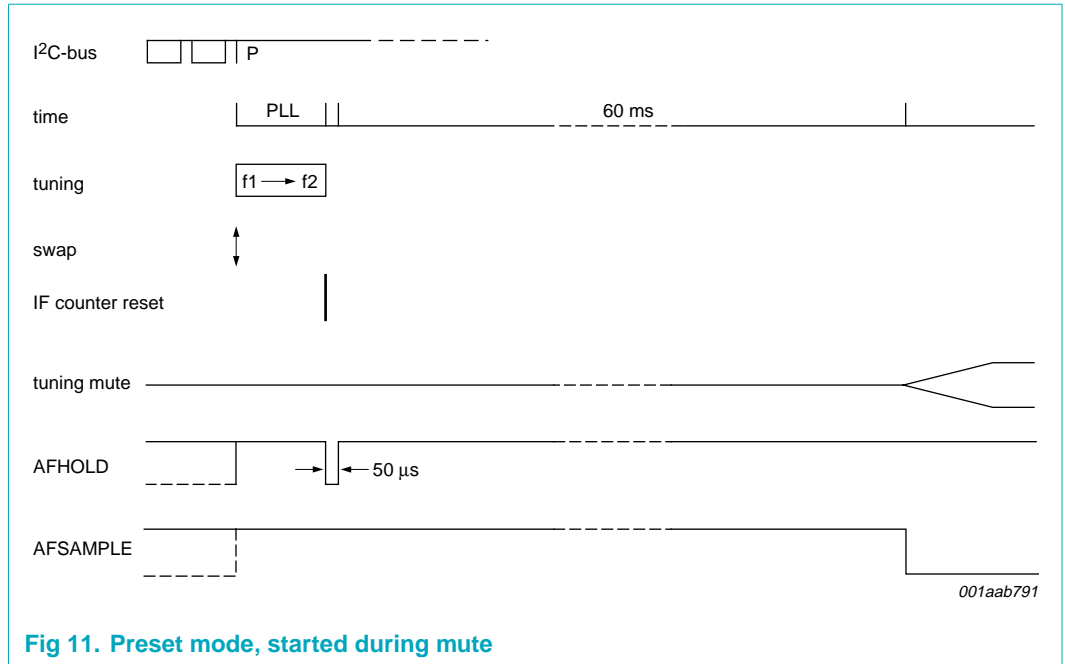
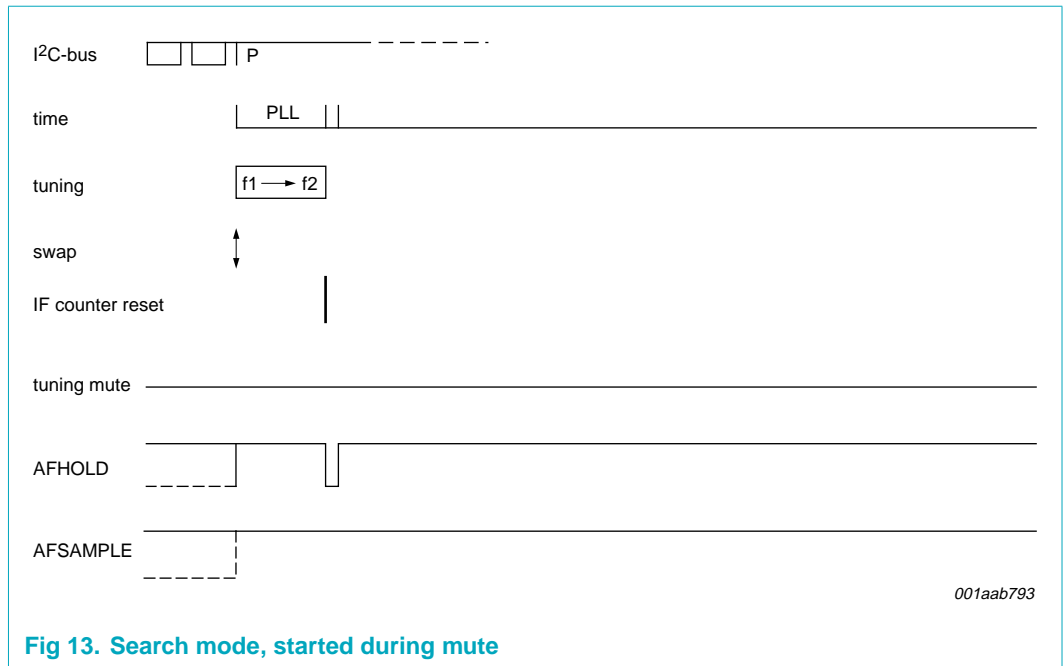
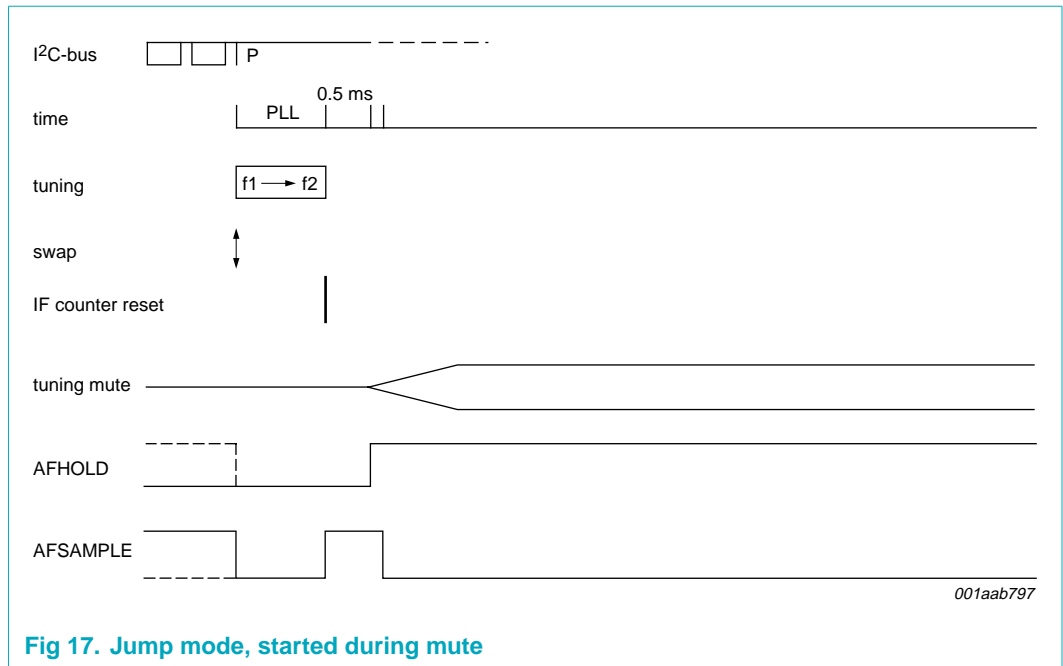
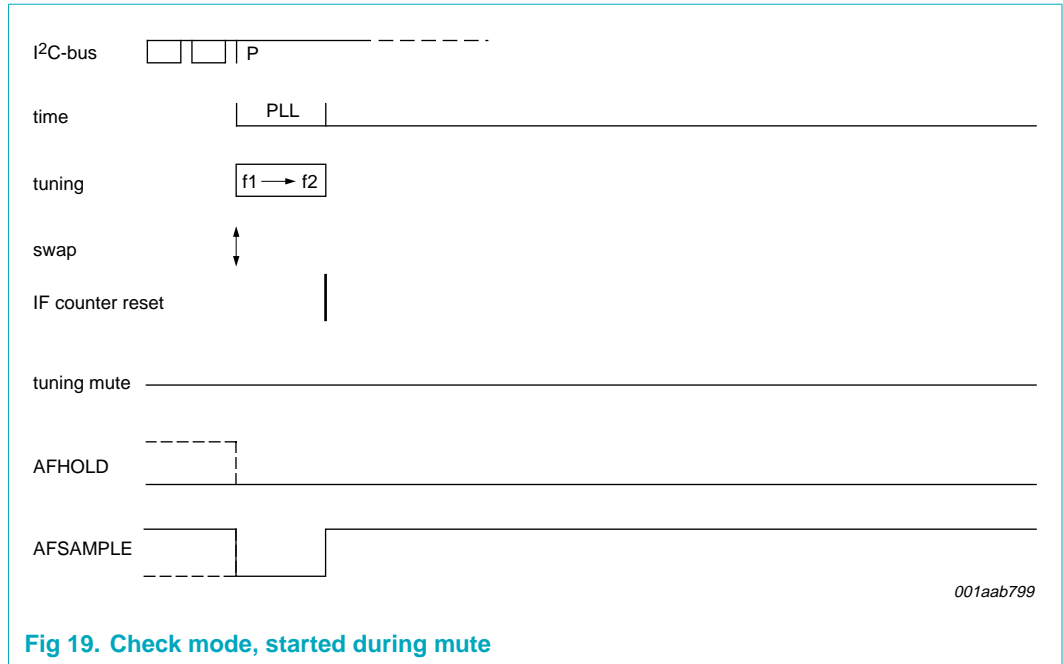

Fig 11. Preset mode, started during mute
Fig 13. Search mode, started during mute
Fig 17. Jump mode, started during mute
Fig 19. Check mode, started during mute
- [1] When the write transmission of a state machine command starts during a mute state of the state machine, the sequences of the state machine start immediately with the actions which follow the mute period in the standard sequence (see Figure 11, Figure 13, Figure 15, Figure 17 and Figure 19).